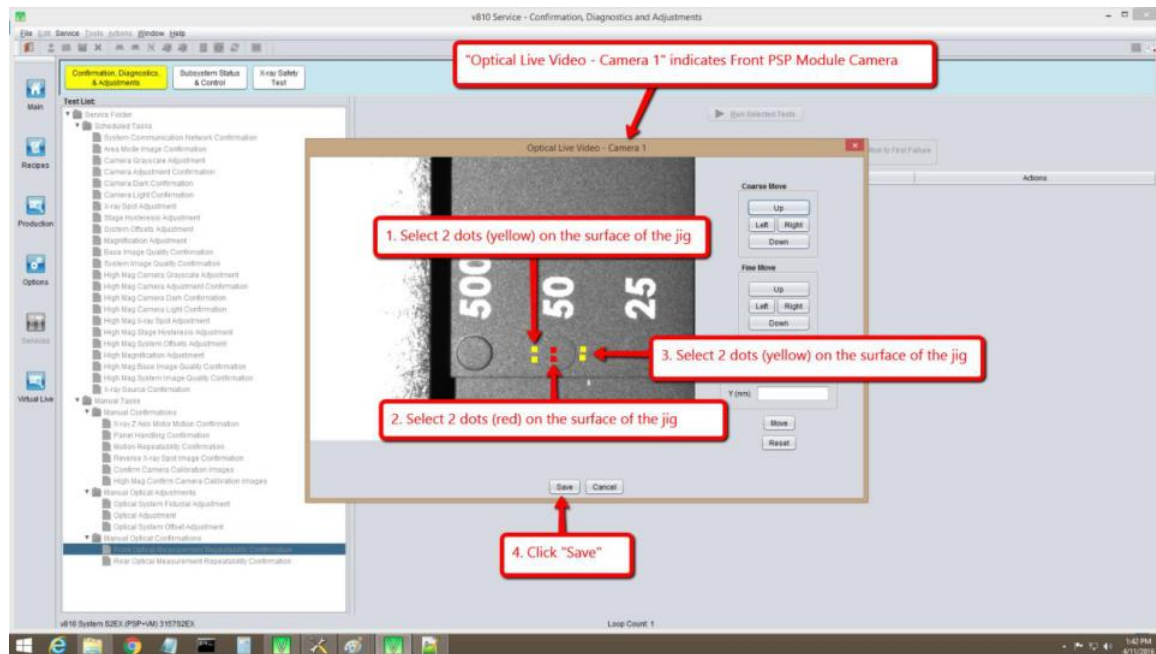

Figure 34 Adjustment Points
26. Select particular points as indicated in Figure 34. Total of 6 points require to be select as shown in the Figure 34.